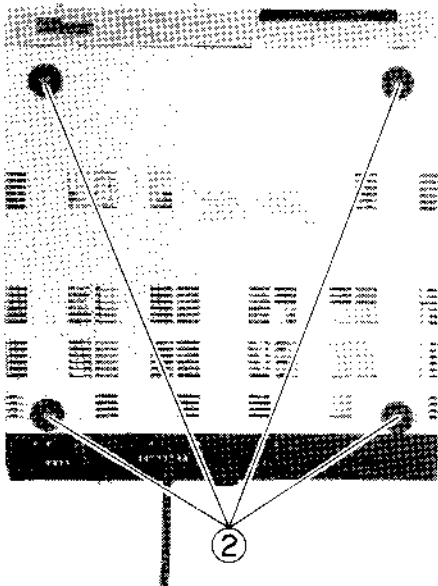

Fig. 2-2 Bottom cover
2. Take out 4 screws ② shown in Fig. 2-2 and remove the bottom cover.